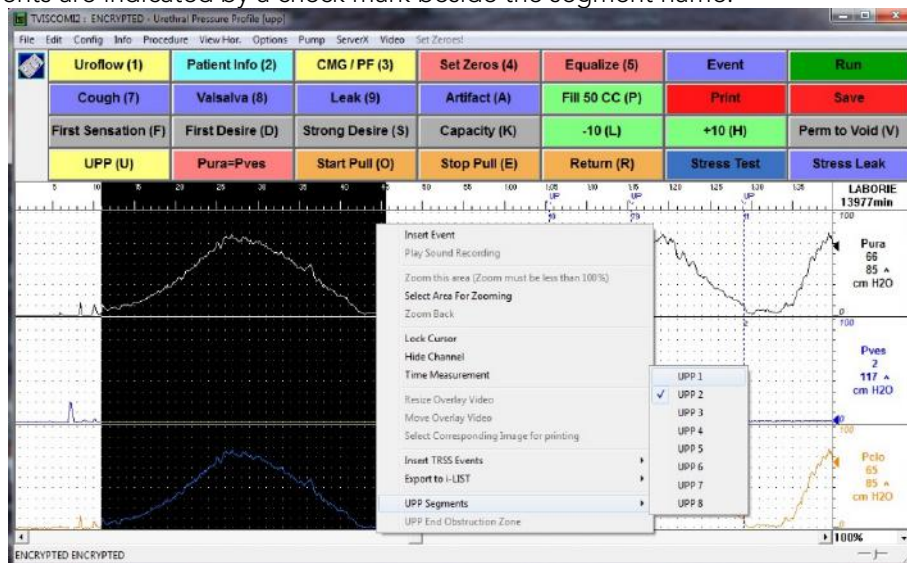
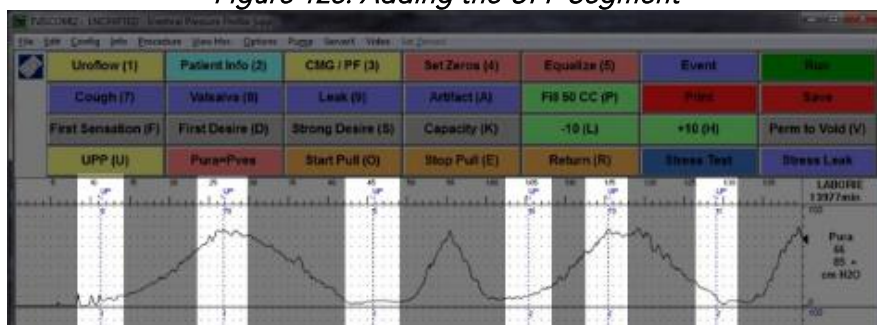

Figure 123: Adding the UPP Segment
Figure 124: UPP Events Added
- Click *UPP Segments* in the context menu and select an unused UPP Segment. *UPP Start*, *UPP Peak*, and *UPP Stop* events are added to the graph for that pull (Figure 124). Figure 123 shows remarking of UPP 1.